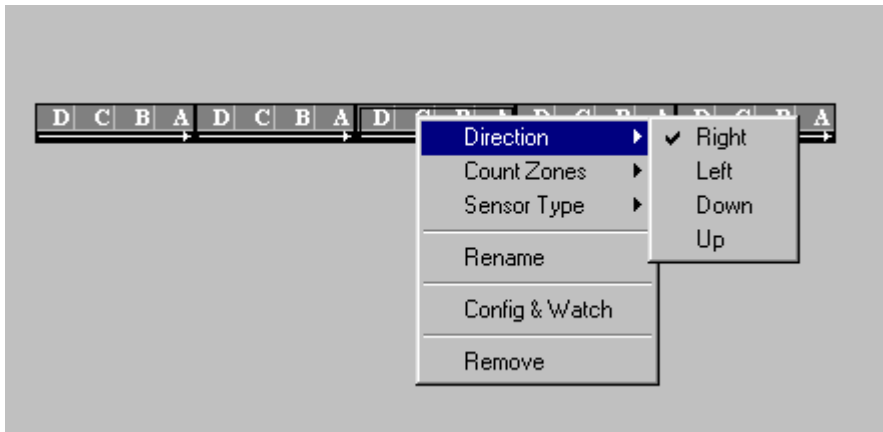

Fig.4.15
- Approach **Direction** item to open the options box – Fig. 4.15. The check sign **Right** shows that the third module is in the right position – consider the arrow on the bottom of the module’s image.